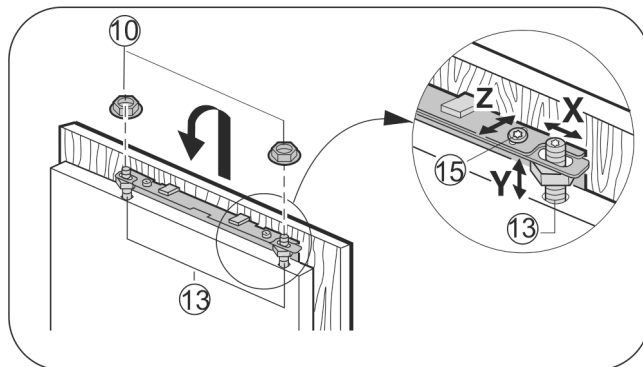

Fig. 19
- Attach the unit door to the adjusting bolts Fig. 19 (13) and loosely screw the locknuts Fig. 19 (10) onto them.
- To align the door vertically Y and in the lateral inclination: adjust adjusting bolts Fig. 19 (13) with a screwdriver.
- Tighten locknuts Fig. 19 (10).